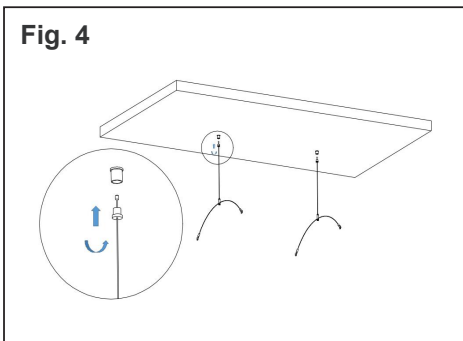

Fig. 4
4. Screw the two cables into the panel. (Fig. 4).